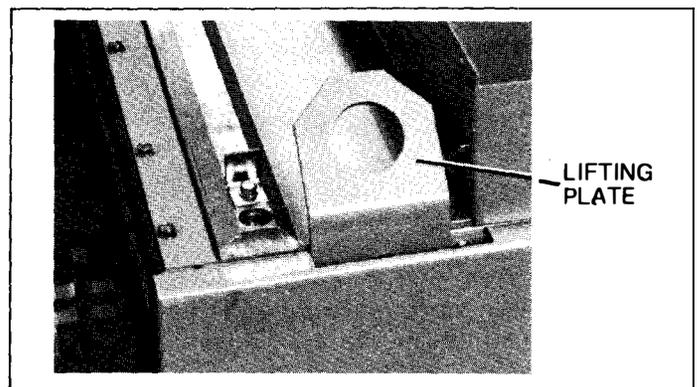
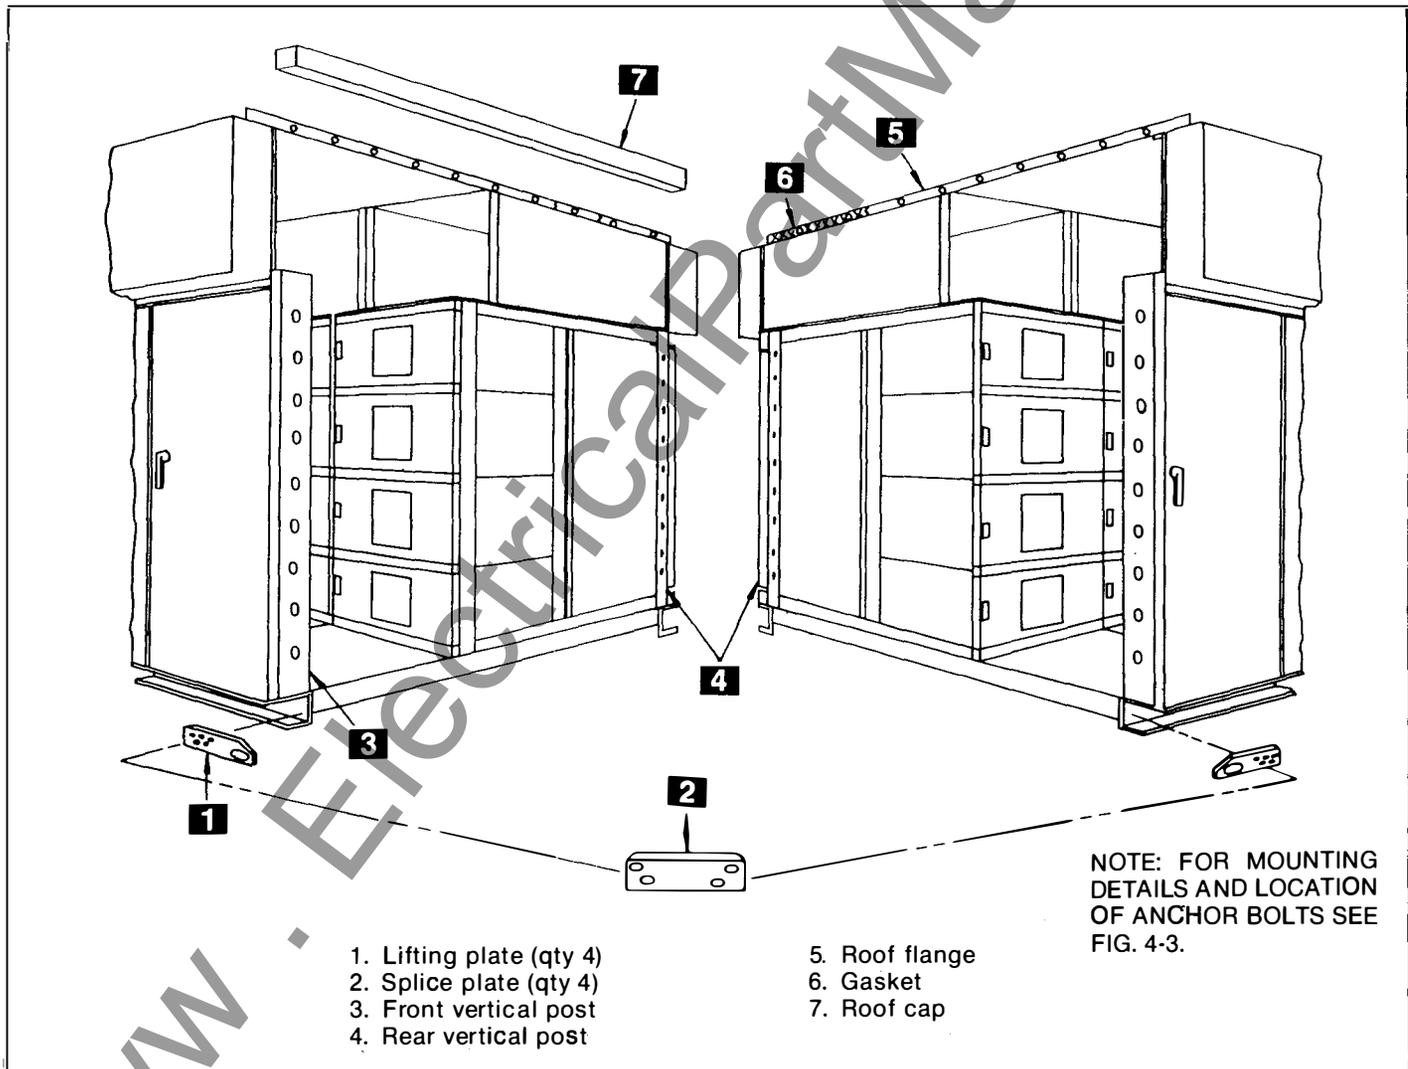
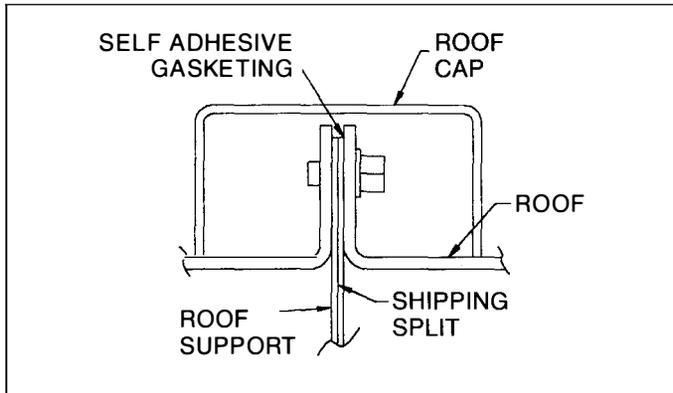

Fig. 4-5. Lifting plate location
Fig. 4-16. Outdoor enclosure shipping split assembly
Fig. 4-17. Cross-section view of assembled roof joint
NOTE: If the equipment line-up was split into shipping sections, the lifting plates on corners of adjacent sections shown in Fig. 4-5 must be removed. Failure to remove these plates will interfere with mating adjacent sections and prevent installation of bus splice plates, structure tie plates, etc.
2. **APPLY GASKET MATERIAL**—After removal of the lifting plates (see Fig. 4-5), it is necessary to apply the self adhesive gasketing material (6), Fig. 4-16, to the mounting surface of the roof flange (5). The gasket material is supplied with the equipment.
4. **FASTEN SECTIONS TOGETHER**—Referring to Fig. 4-16, the mating sections of the outdoor enclosure should be immediately bolted together including the front (3) and rear (4) vertical posts and the roof flange (5). Each vertical post will require ten $\frac{3}{8}$ -16 NC x 1-inch bolt assemblies; the roof flange will require either eleven or twelve $\frac{3}{8}$ -16 NC x $\frac{1}{2}$ -inch bolt assemblies. The bolts should be tightened with a torque of 25-30 ft-lbs. Figure 4-17 is a cross-sectional view of the assembled roof joint.
5. TIE HOUSING BASES TOGETHER—Referring to Fig. 4-16, tie the bases of the outdoor housing together using the splice plate (2) supplied with the equipment and the bolts which previously secured the lifting plates (1) removed after emplacement of the equipment. The nuts are welded to the rear surface of the base. The bolts should be tightened with a torque of 45 ft-lbs.
6. INSTALL THE ROOFCAP—The roofcap (7), Fig. 4-16, should be installed over the sealed and fastened roof flange assembly (5). The roof cap is secured in place with two $\frac{1}{4}$ -20 NC x $\frac{1}{2}$ -inch thread forming bolts, each at the front and the rear ends of the roof cap. These bolts should be tightened with a torque of 7-9 ft-lbs.